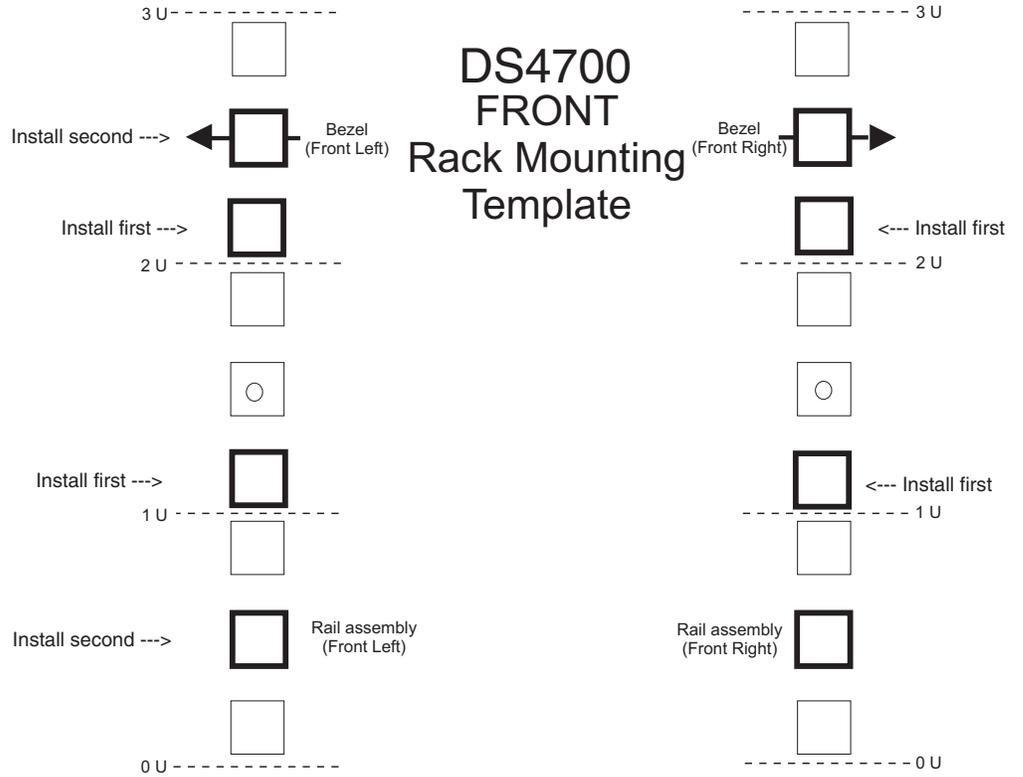
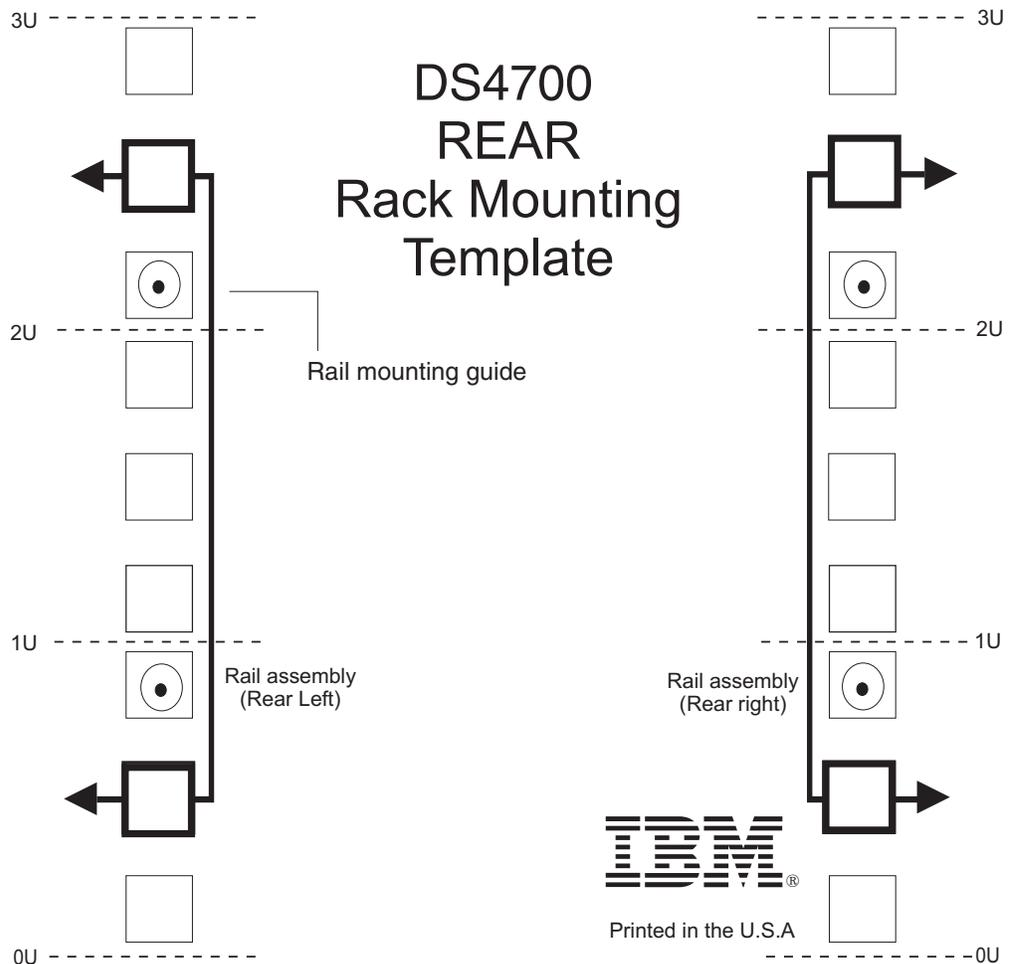

Figure 18. Front rack mounting template
Figure 19. Rear rack mounting template
Use the following templates (Figure 18 on page 37 and Figure 19 on page 38) to identify the proper locations for inserting M5 screws when mounting the support rails and DS4700 Express Storage Subsystem to a rack cabinet. The locations for the M5 screws are highlighted in the templates.
**Attention:** Use the rack mounting template provided in Figure 18 on page 37 and Figure 19 on page 38 to locate the proper rack mounting holes for installing the support rails into the rack.
- The lip on the rail should line up with the bottom of the storage subsystem (the 0U boundary in Figure 19 on page 38).
6. Hold the back of the rail against the inside of the rack-mounting flange. Make sure the rail mounting guide pins are in the correct holes. See Figure 19 on page 38 for an illustration.
**Note:** Be sure to install the screw labeled *install first* in Figure 18 on page 37.